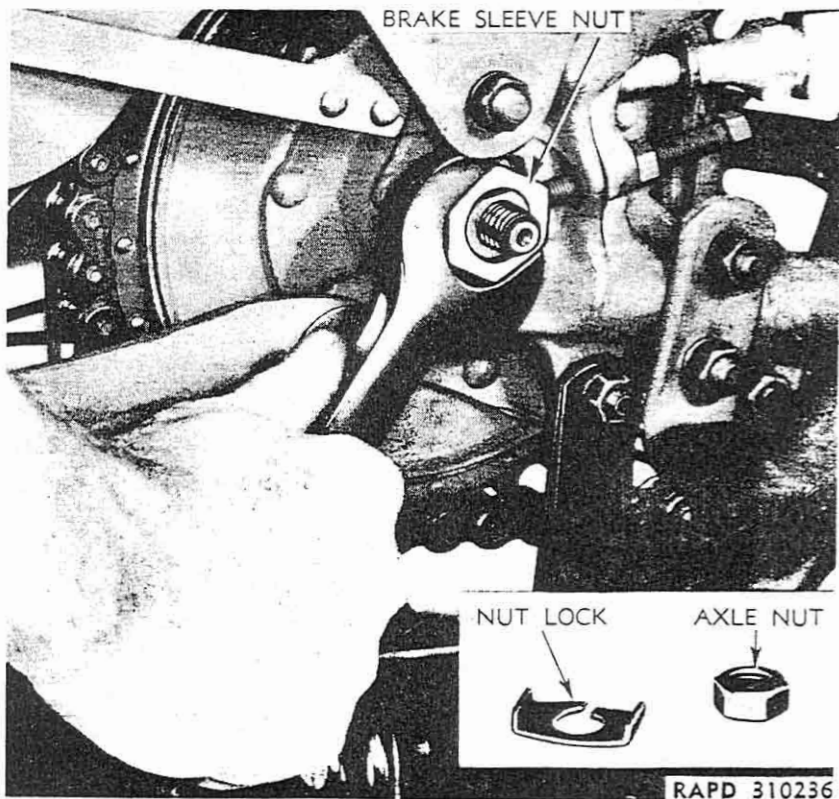
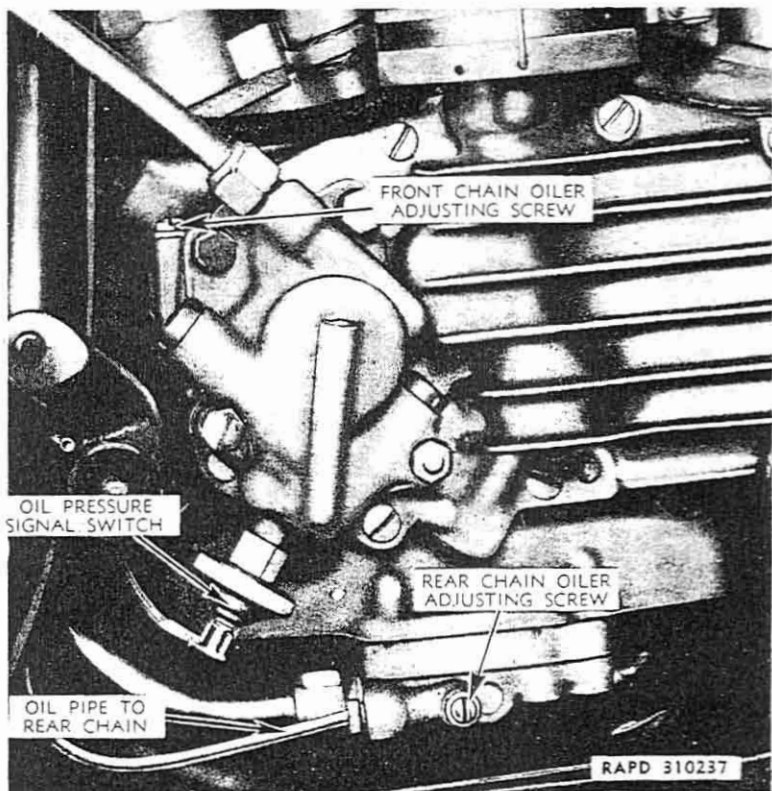

Figure 39—Brake Sleeve Nut
Figure 40—Chain Oilers
60. ADJUST REAR CHAIN AND ALINE REAR WHEEL (fig. 39).
(1) Remove rear axle nut and lock washer (right side of vehicle).
(2) Loosen brake sleeve nut enough to allow brake assembly to slide backward or forward in frame mounting (fig. 39).
(3) Loosen the two (right and left side) rear wheel adjusting screw lock nuts.
(4) Turn wheel adjusting screws clockwise (to right) to move wheel and sprocket backward. This tightens chain. *NOTE: If chain is too tight, turn wheel adjusting screws counterclockwise (to left) so that wheel can be shifted forward. This will loosen chain.* Always turn the two wheel adjusting screws an equal number of turns in order to keep wheel alined.
(5) Check correct alinement of wheel by noting that tire (not tire rim) runs approximately midway between lower rear frame tubes at the point where tubes join transmission mounting. It is desirable to have tire run slightly closer (not more than $\frac{1}{16}$ in.) to right than to left side lower tube. A further check of alinement is observing that rear sprocket runs centrally in chain. *CAUTION: If rear wheel is not correctly alined, vehicle steering will be affected, and sprockets will wear excessively on one side.*
(6) With adjustment of chain and wheel alinement completed, securely tighten wheel adjusting screw lock nuts, and brake sleeve nut; replace axle lock washer and nut, tightening nut.
(7) Recheck adjustment of chain as tightening brake sleeve nut and axle nut sometimes changes the chain adjustment.
(8) After tightening rear chain, rear brake may be found too tight. Check and correct brake adjustment (par. 96).
61. CHAIN OILERS (fig. 40).
(1) Add thin (0.002-inch thick) washer under head of front chain oiler adjusting screw (fig. 40). Do not remove any washers already under head of screw.
(2) To check results, refer to step **b** above.
(1) To adjust oiler, remove thin (0.002-inch thick) washer from under head of front chain oiler adjusting screw (fig. 40).
(1) Adjust oiler by adding thin (0.002-inch thick) washer under head of rear chain oiler adjusting screw (fig. 40). Do not remove any washers already under head of screw.
(2) To check results, refer to step b above.
(1) To adjust oiler, remove thin (0.002-inch thick) washer from under head of rear chain oiler adjusting screw (fig. 40).
g. At 1000-mile intervals, loosen both front and rear chain oiler adjusting screws (fig. 40) two turns each. Do not remove screws. Start and idle engine 1 minute, then tighten screws firmly, but do not force. This operation serves to flush oiler control valves and rear chain oiler pipe.